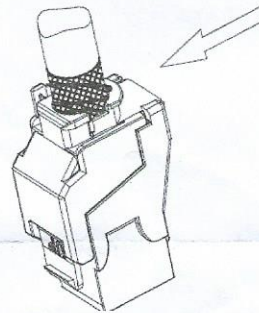

Fig. 13
- 3) The braid wires should be wrapped around the cable to ensure 360deg shield. Push the shielding lug close to the jack (Fig. 13)